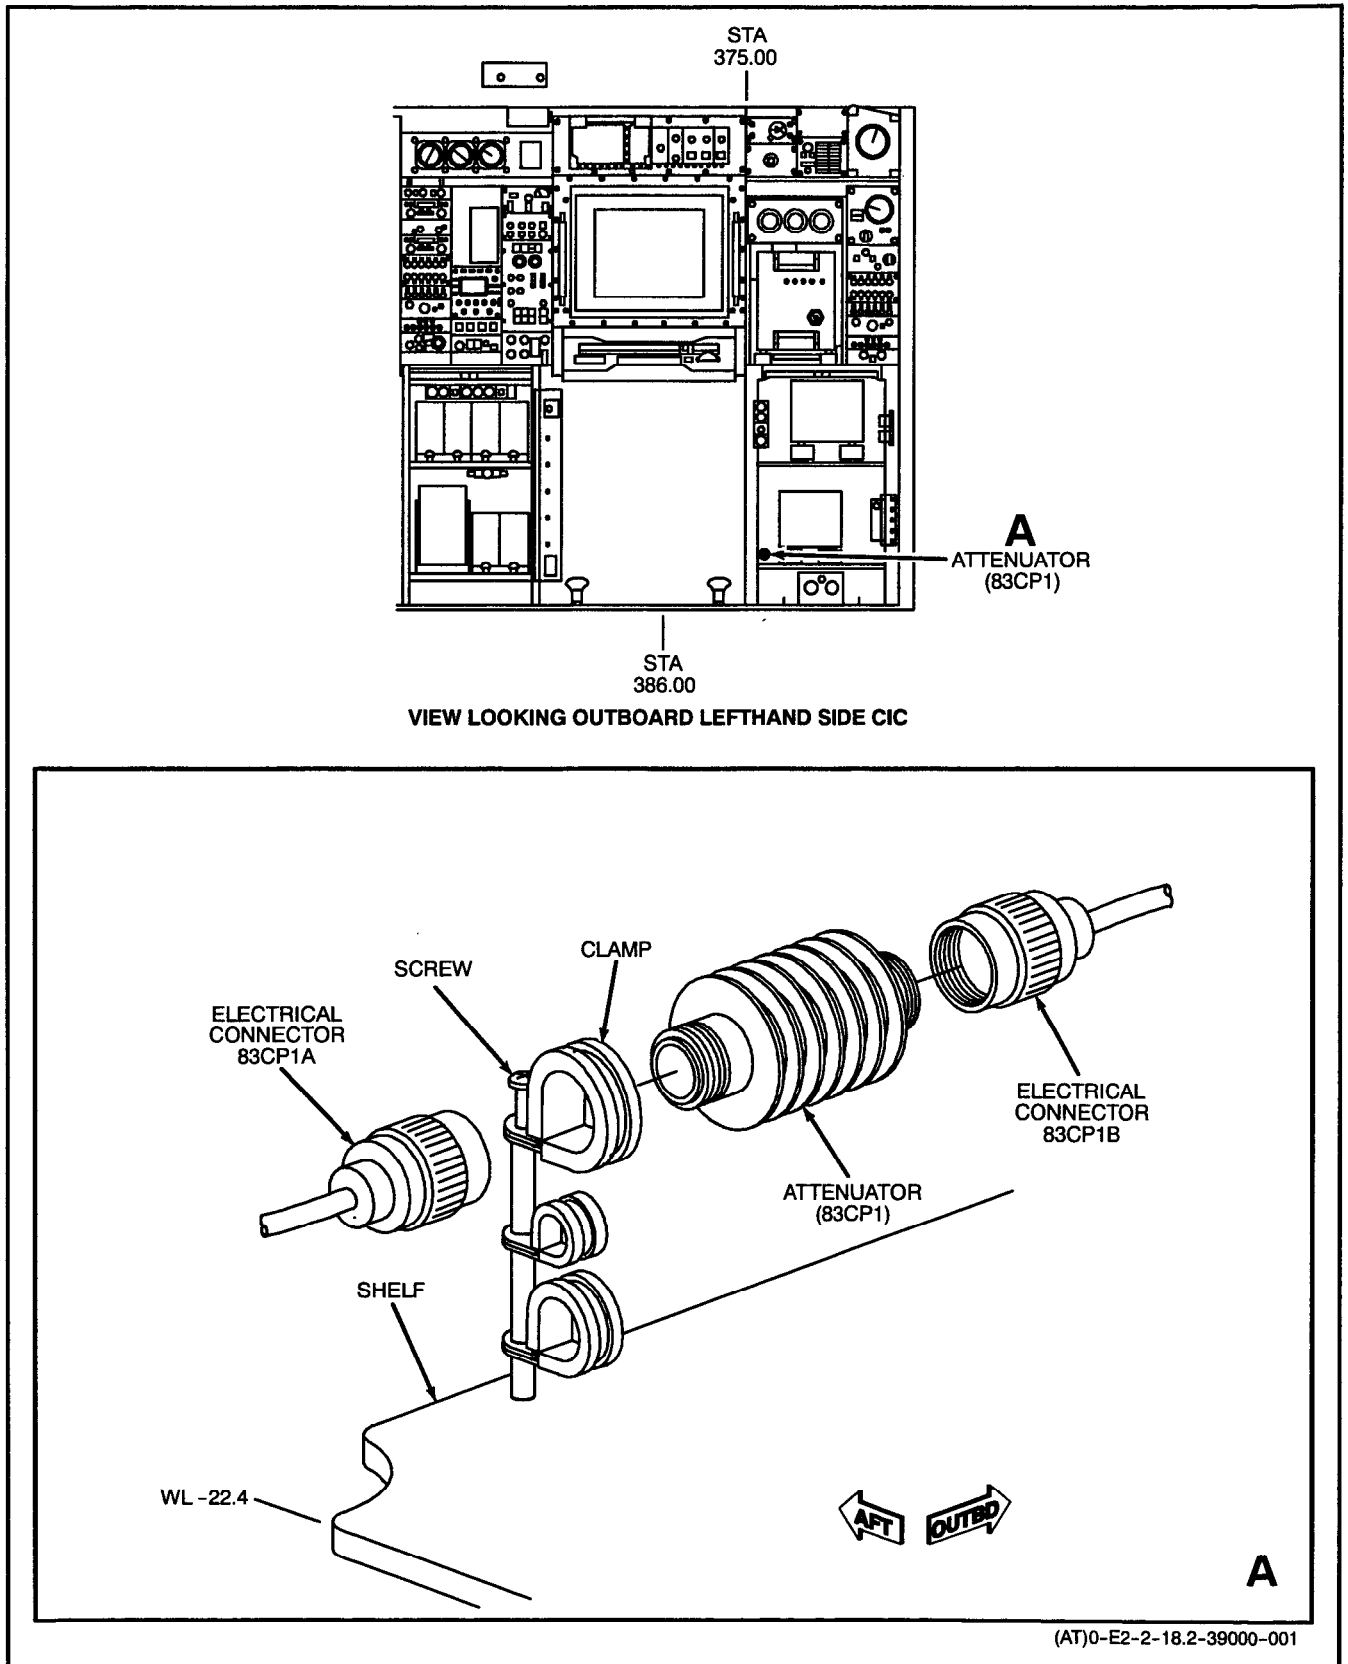

Figure 1. Removal and Installation of Attenuator (83CP1)
**2. INSTALLATION.** (Figure 1.)
c. Remove caps and connect electrical connectors 83CP1A and 83CP1B to attenuator (83CP1). Remove tags. (QA)
f. Perform operational check of Satellite communications (SATCOM) System (NAVAIR 01-E2AAA-2-17.1.1, WP021 03). (QA)